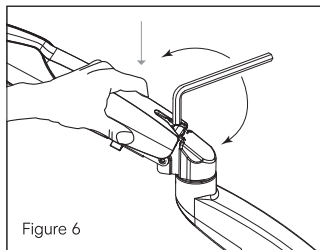

Figure 6
- › Push the arm downward to a horizontal position for easy adjustment (see Figure 6).